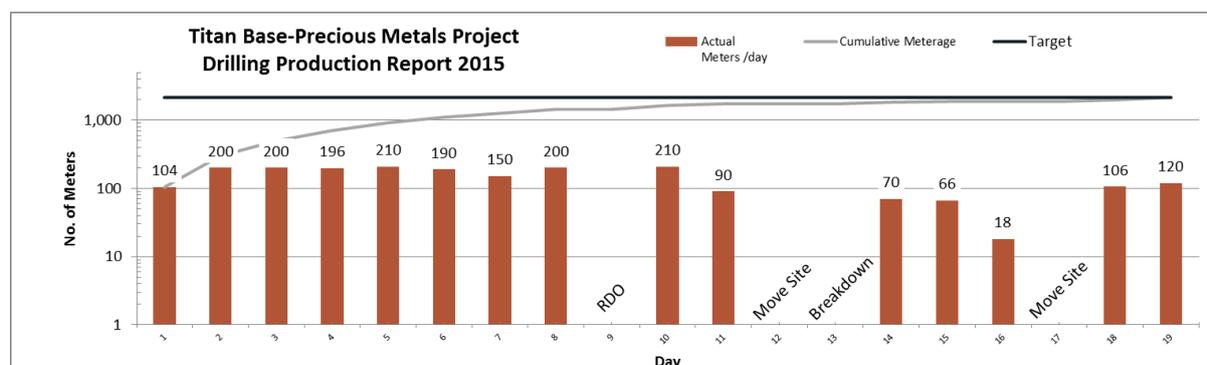

Figure 1 – Daily drilling production report
Apollo Minerals Ltd (ASX: AON) (“Apollo” or “the Company”) announce that the reverse circulation (RC) drilling programme at its South Australian Titan Base-Precious Metals Project was completed. The programme successfully completed drilling 37 holes for a total of 2,130 metres (Figure 1).